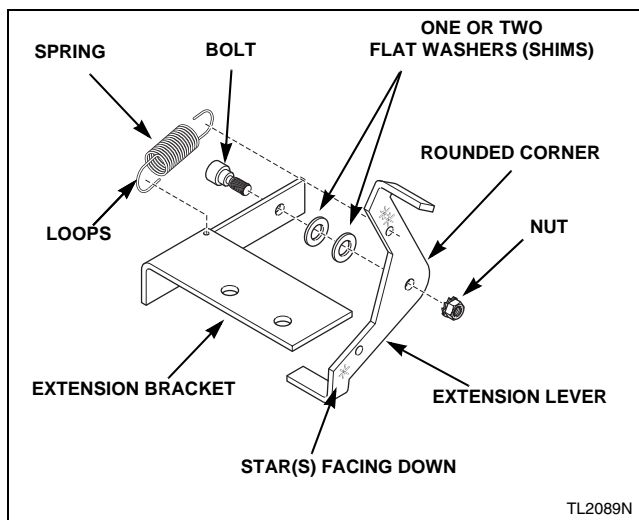

Figure 36
4. Install extension lever with rounded corner facing away from extension bracket using bolt, one or two flat washers (shims) (use number of washers included in kit) and nut. Refer to *Figure 36*. Make sure washers are flat against bracket.
6. Install extension spring in bracket hole and hole in upper arm of lever. Refer to *Figure 36*.